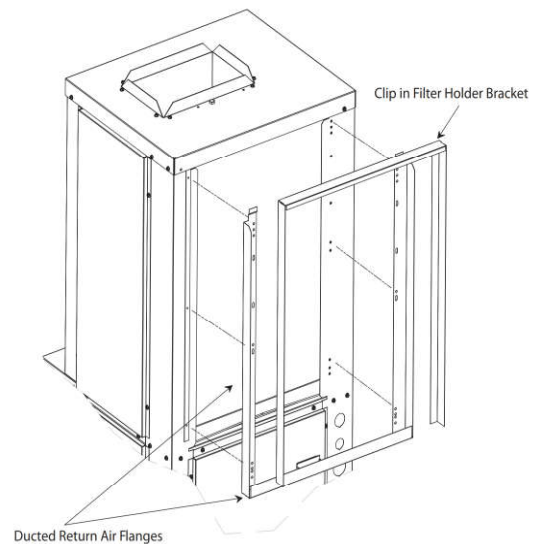

FIGURE 7
10. **Filter Brackets** – (See Figure 7) Filter Brackets and throw away filter are shipped with each unit and are field installed over the unit's evaporator coil.